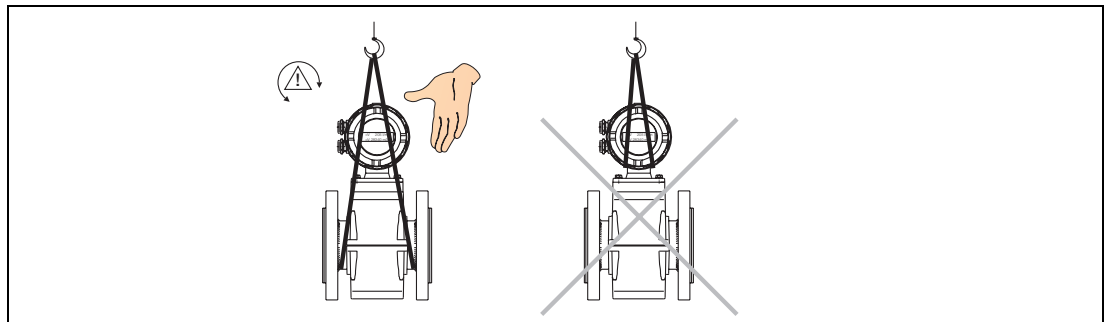

Fig. 5: Transport of Flanged Flowmeters \leq DN 300 [12"]
- when transporting flanged flowmeters \leq DN 300 [12"], use a sling around the exposed meter pipe at both ends (Fig. 5). Chains should be avoided, they could damage the instrument.